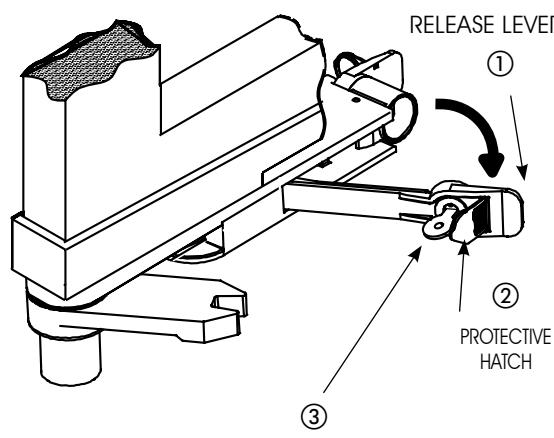

Fig.3
- 1) Open the protective hatch (Fig.3 ref.②).
- 2) Insert the release key in the lock (Fig.3 ref.③) and turn it up to its stop point.
- 3) Pull the release lever toward you (Fig.3 ref.①).